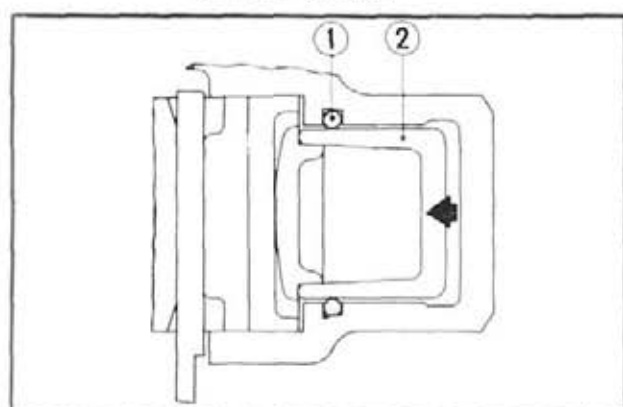

Fig. 14-2 ① Piston seal
3. The clearance of 0.002~0.004 in (0.05~0.1 mm) between the disc and the pad to be consistent with the wear of the pad. When hydraulic pressure is applied against the back of the piston, the piston seal first deforms and as the piston moves further, the piston slides over the piston seal until the pad contacts the disc (Fig. 14-2). When the hydraulic pressure is released, the deformed piston seal will return to its normal shape, and consequently, pulls the piston away from the disc by the amount of the piston seal deformation.